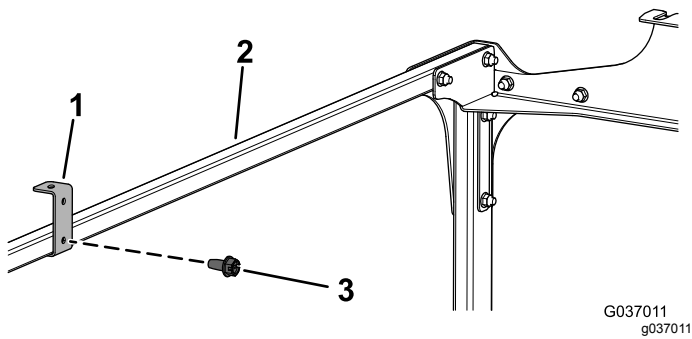

Figure 12
13. Install the 2 roof-support brackets to the crosslink tubes using 2 self-tapping screws (1/4 x 1/2 inch) as shown in Figure 12.